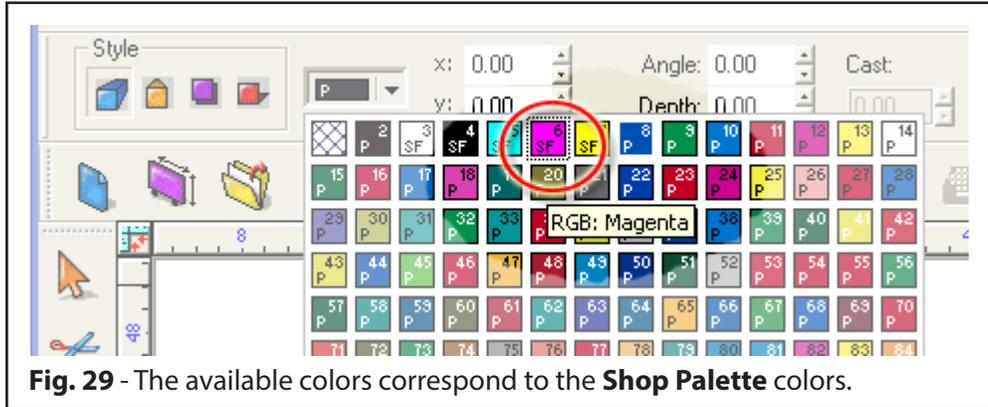

Fig. 29 - The available colors correspond to the **Shop Palette** colors.
- Next to the styles, there is a color picker that is used to choose the color of the shadow. Clicking the color picker will display the available colors. Choose the sixth color, such that the shadow will be magenta (Fig. 29).